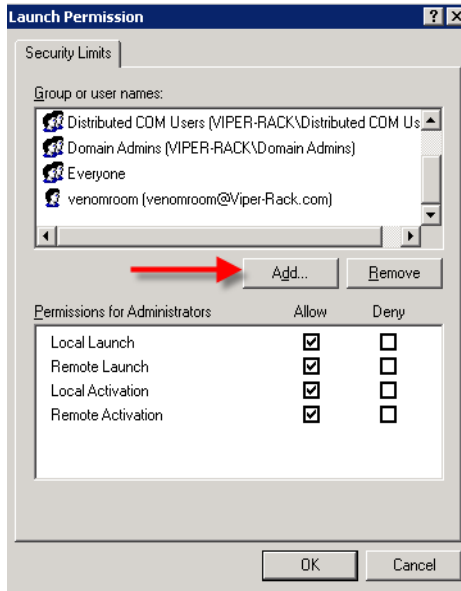

Figure 2-29 Launch Permissions
5. In the Launch Permissions window, select **Add** as shown in figure 2-29.